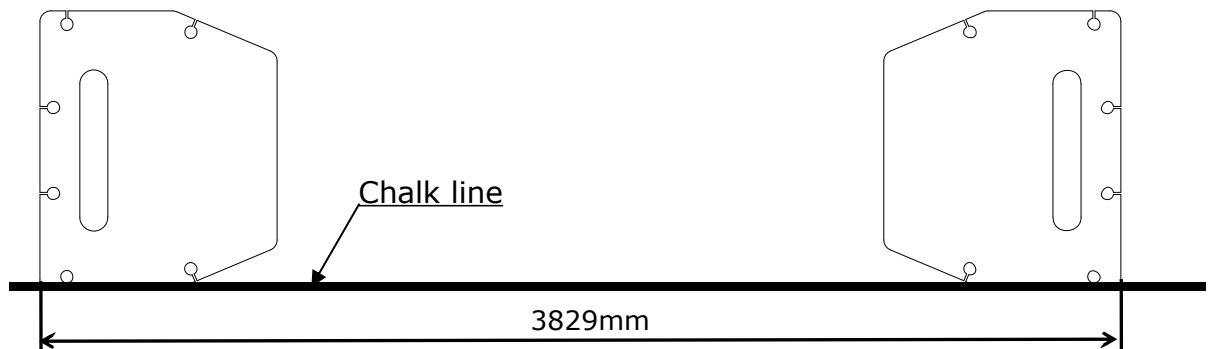

Fig. 6
B. Use a carpenter's chalk line to establish installation layout of baseplate (See Fig. 6).